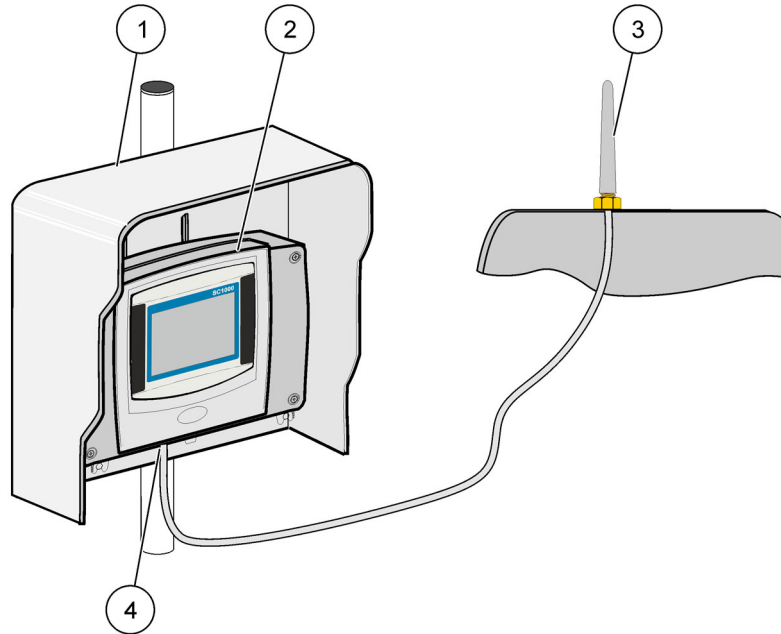

Figure 35 Connect the external GSM antenna
4. Attach the antenna cable to the GSM antenna connection at the display module (Figure 7). Use the supplied adapter to connect the antenna connector and the GSM antenna connection (Figure 35).